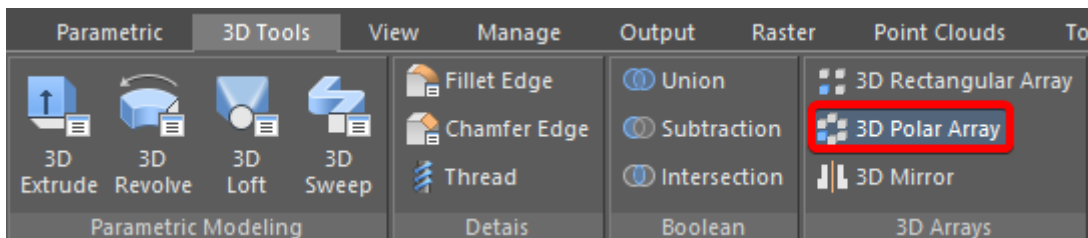

Fig. 28. 3D Polar Array command
8.3. Activate the command **3D Polar Array** (Fig. 28).